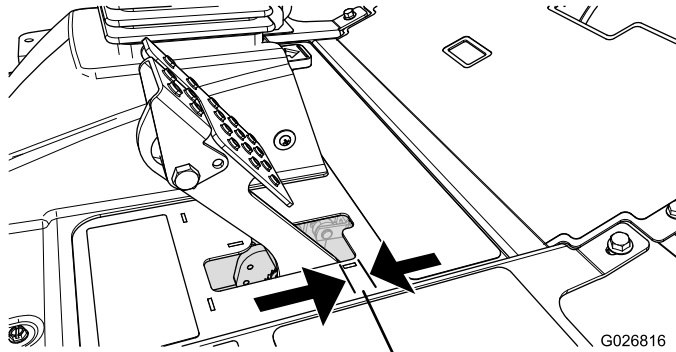

Figure 55
Adjust the brakes when there is more than 2.5 cm (1 inch) of free travel (Figure 55) of the brake pedal, or when more holding force is required. Free travel is the distance the brake pedal moves before you feel braking resistance.
2. Tighten the rear nut to move the cable backward until brake pedals have .63 to 1.27 cm (1/4 to 1/2 inch) of free travel (Figure 55), before wheel lock up is achieved.